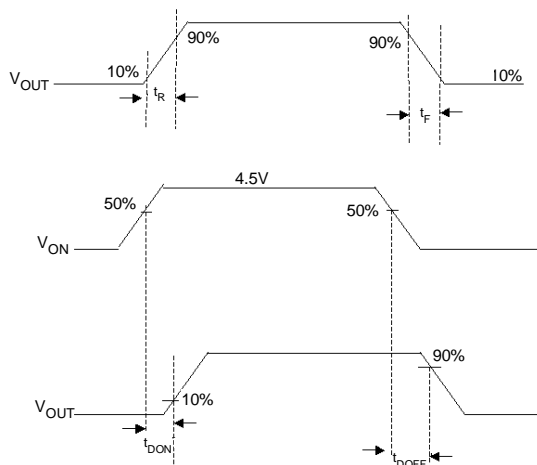

Figure 32. Timing Diagram
4. $t_{DON}/t_{DOFF}/t_R/t_F$ are defined in Figure 32.